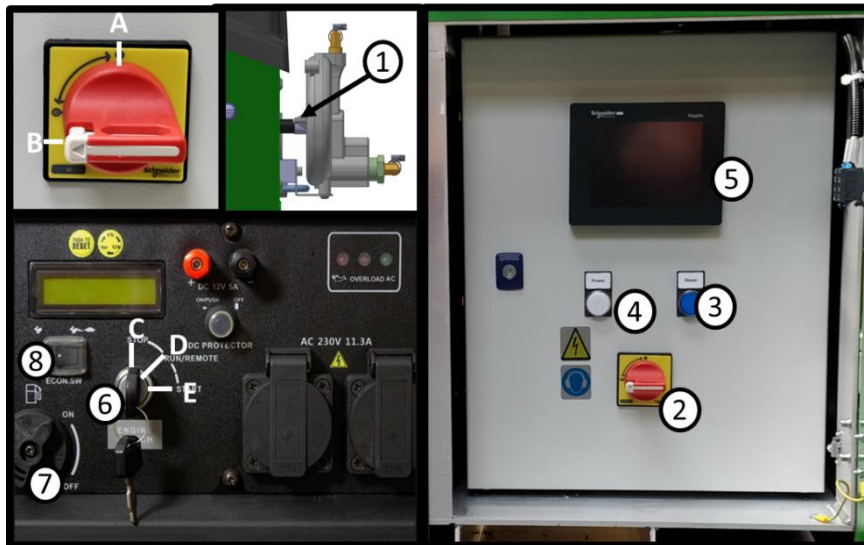
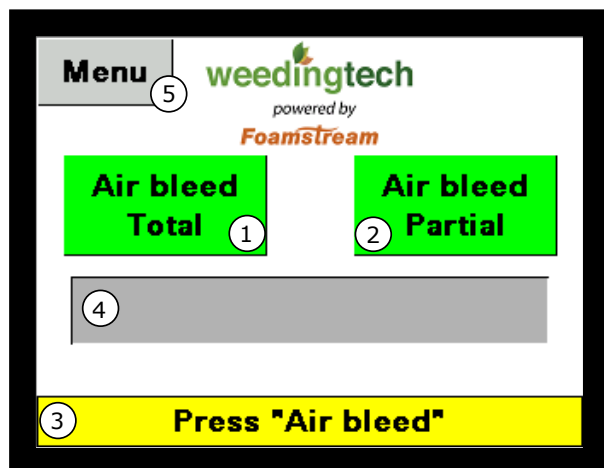

Figure 11 - Details of the switches of the front panel
Figure 12 - Start-up screen of the PLC
- Turning the key to position **E** and release to position **D** when engine starts (see Figure 11) or
- ✓ Turn the isolator switch to position **A** (see Figure 11), the PLC screen should illuminate (see Figure 12)
- ✓ Press the **RESET** button (blue button on the front panel, see Figure 5), the **FAULT** indicator goes out and you should see the screen represented in Figure 12
- ✓ Wait a few seconds before requesting air bleed: buttons **1** or **2** in Figure 12